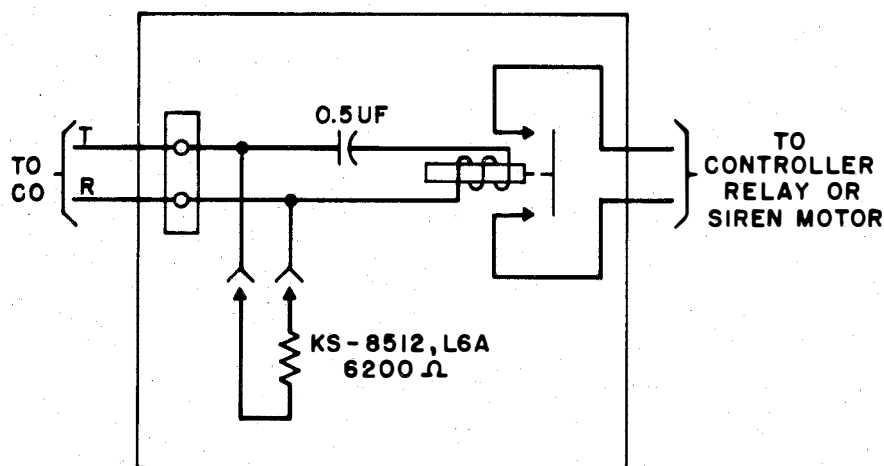

Fig. 3 — Modification of KS-16626,L6 Power Relay Set
4.01 The KS-16626,L6 power relay set connects to a line as shown in Fig. 3.
4.03 At stations where the line is to be placed under continuous test, connect a KS-8512, L6A resistor equipped with No. 241 terminals across line (Fig. 3). Insulate exposed leads of the resistor with tape or tubular insulation.